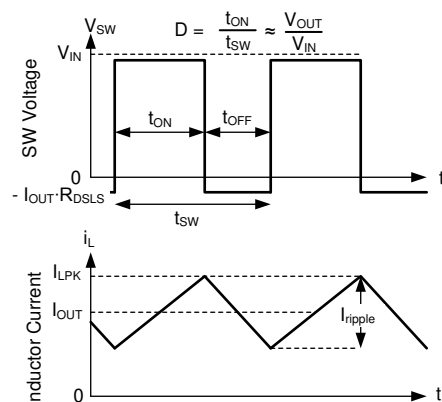

Figure 9-21. SW Voltage and Inductor Current Waveforms in Continuous Conduction Mode (CCM)
The following operating description of the LM62440-Q1 refers to Section 9.2 and to the waveforms in Figure 9-21. In CCM, the LM62440-Q1 supplies a regulated output voltage by turning on the internal high-side (HS) and low-side (LS) NMOS switches with varying duty cycle (D). During the HS switch on-time, the SW pin voltage, V_{SW} , swings up to approximately V_{IN} , and the inductor current, i_L , increases with a linear slope. The HS switch is turned off by the control logic. During the HS switch off-time, t_{OFF} , the LS switch is turned on. Inductor current discharges through the LS switch, which forces the V_{SW} to swing below ground by the voltage drop across the LS switch. The converter loop adjusts the duty cycle to maintain a constant output voltage. D is defined by the on-time of the HS switch over the switching period: